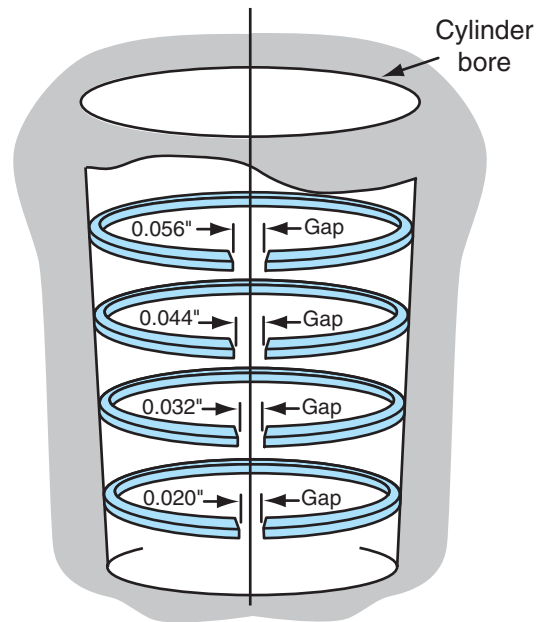

FIGURE 11.29 Effect of a 0.012" cylinder bore taper on the ring gap in a 4" bore.
- **Figure 11.29** shows the effect taper has on the ring gap.